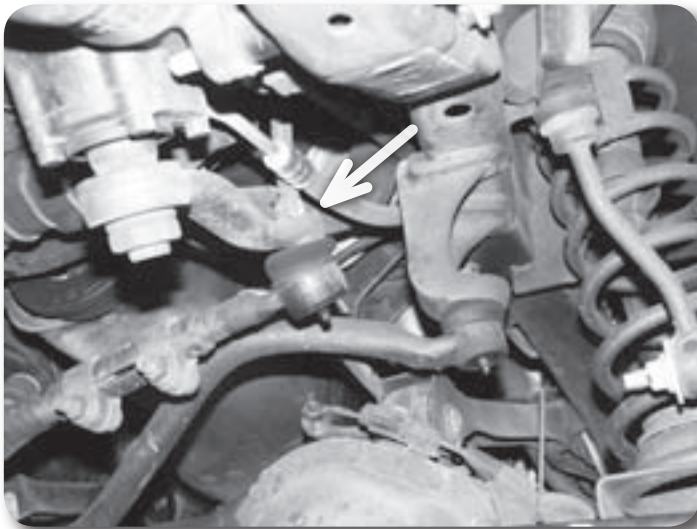

Figure 4
8. Remove the cotter pin and castellated nut from the drag link end at the pitman arm (Figure 4). Thread the nut back on a couple of turns. Strike the pitman arm near the drag link end to release the tapered seat. Take care not to damage the end. Remove the nut and the drag link from the pitman arm. Save hardware.